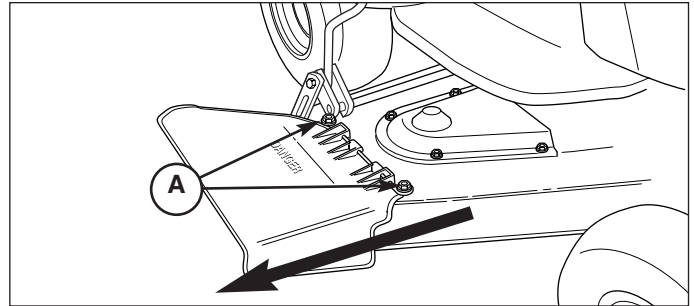

Figure 3. Remove Deflector
1. Remove and retain the carriage bolts, washers, lockwashers, and nuts (A, Figure 3) holding the deflector rod to the deck. Remove and discard the deflector rod. Retain the deflector.